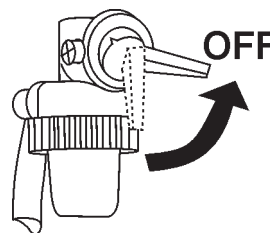

Figure 18. Engine Fuel Valve Lever (OFF Position)
4. Place the engine **fuel valve lever** (Figure 18) to the “**OFF**” position.”